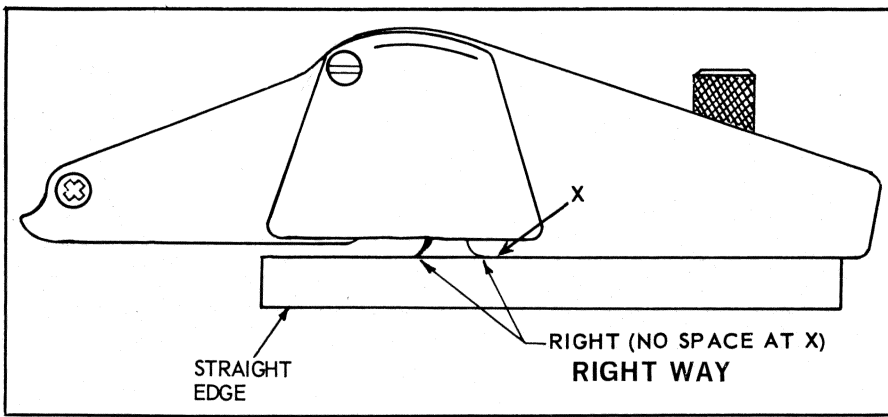

Fig. 5
6. Recheck to see if the tips of the cutting edges still raise the straight edge. Readjust, if necessary, until the tips of the cutting edges just touch the straight edge while it is resting on the surface of the rear section of the base, as shown in Fig. 5.
7. NOTE: If the cutter is adjusted "wrong" the belt may break or the belt cogs will shear off. The cutter must be adjusted "right" as shown in Fig. 5, for satisfactory performance and long belt life.